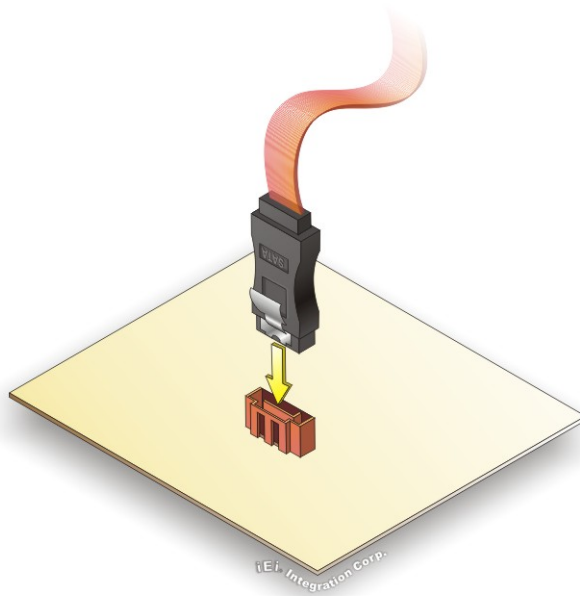

Figure 4-21: SATA Drive Cable Connection
- Step 2: Insert the cable connector.** Insert the cable connector into the on-board SATA drive connector until it clips into place. See **Figure 4-21**.